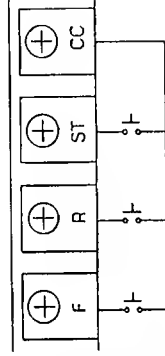

Figure 9.8 Installation of Forward/Reverse Contacts
These operations are available using remote signals, as well as from the touchpad. To perform these operations using remote signals, wire the correct drive input terminal blocks as shown in Figure 9.8.
2. Install the switches as shown in Figure 9.8.